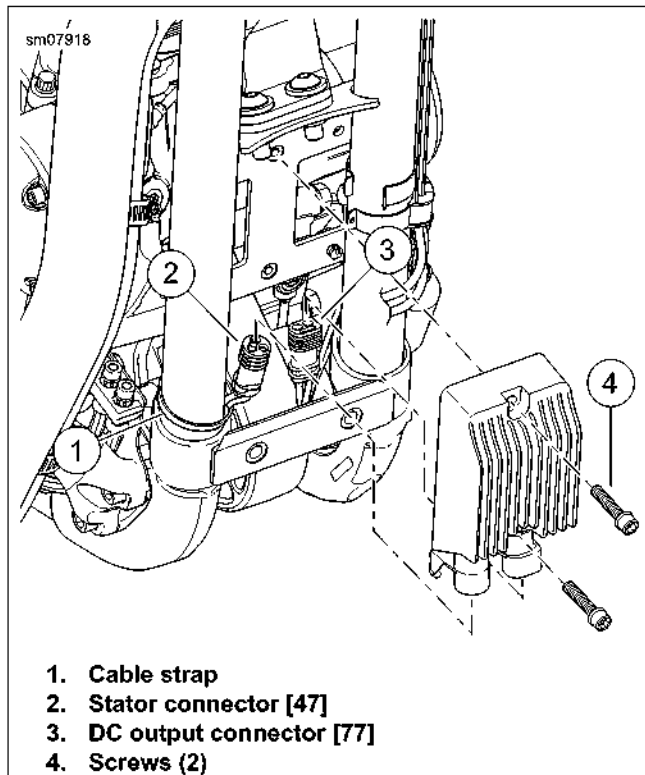

Figure 6-84. Voltage Regulator
3. See Figure 6-84. Cut cable strap (1) around frame and stator connector [47] (2) wire harness.
5. Lift external latch on DC output connector [77] (3) pin housing. Separate the socket housing.
6. Remove screws (4) from top and bottom of voltage regulator.